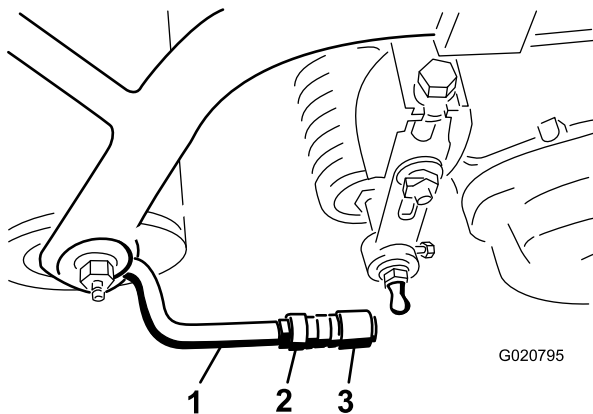

Figure 9
5. Align the sockets in the ball joints so the open side of the socket is centered toward the ball stud, and tighten the jam nuts to secure the sockets in position (Figure 9).